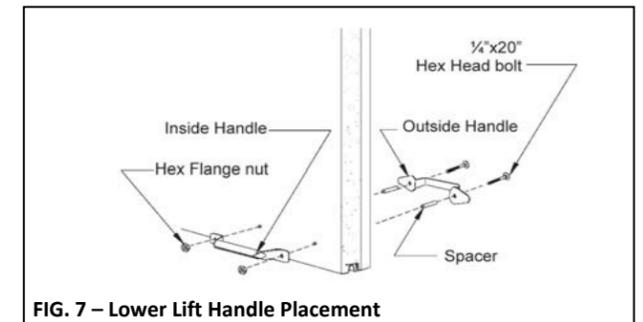

FIG. 7 – Lower Lift Handle Placement
**Step 5:** Attach the black ornamental handle (outside) and the steel roll grip handle (inside) to the door using two 1/4" black painted hex head bolts, and two 1/4" hex nuts (See Fig. 7).